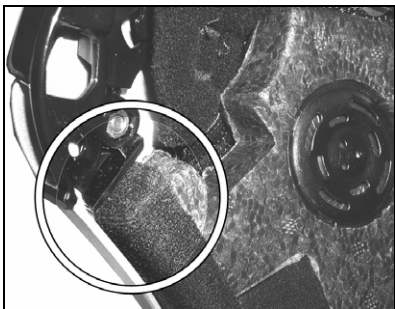

Fig. 28
**Note:** Make sure the cheek pad is properly positioned in its housing, pushing in the lined corner underneath the ribbing on the shell (Fig. 28).